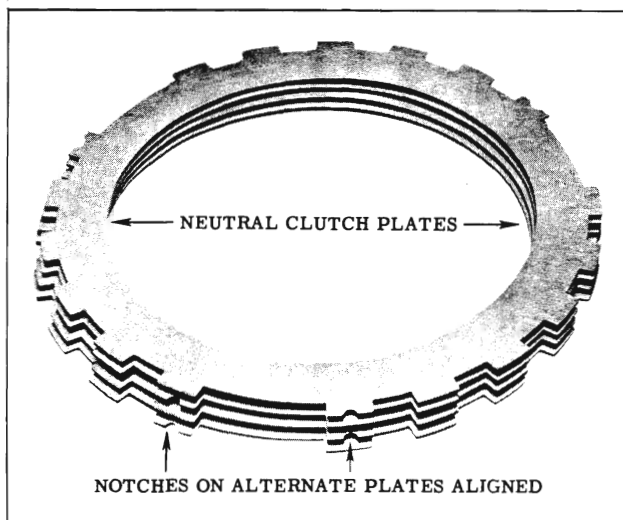

Fig. 3-95 Clutch Plate Alignment
- a. Position every other steel plate so that the notched lug is on the opposite side of the wide space. The steel plates must be installed one above the other in this arrangement to properly un-nest the clutch pack. (Fig. 3-95)